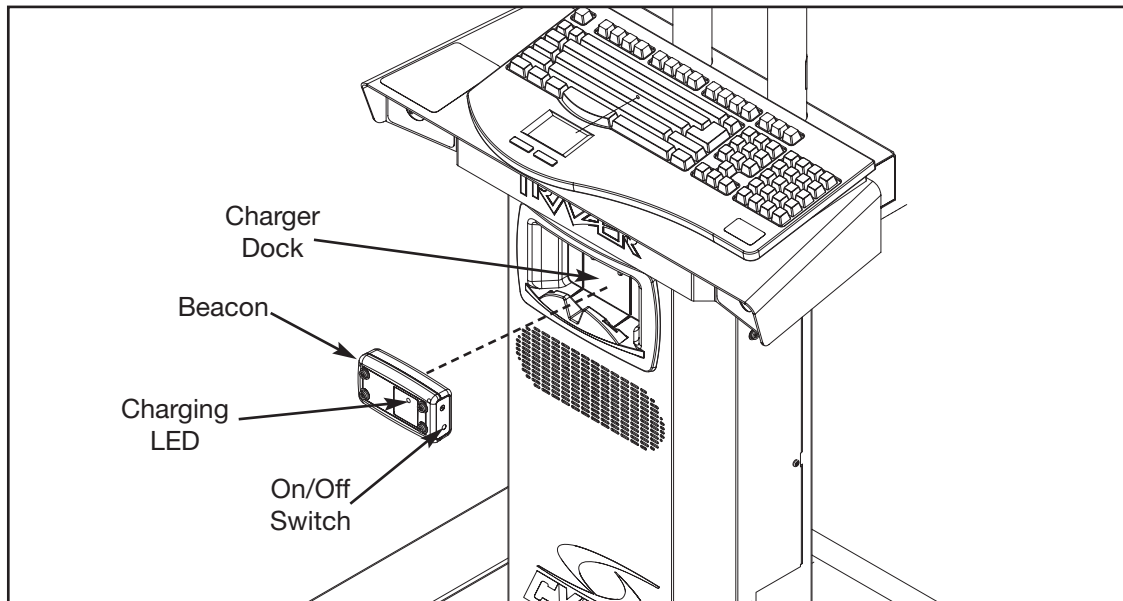

Figure 1
1. Remove beacon from charger dock. See Figure 1.
8. Place beacon in the charger dock with the On/Off switch on the right side. See Figure 1. **NOTE:** It is very important that the beacon be placed in the charger dock correctly. It takes about 12 hours to obtain a full charge. A fully charged beacon should provide about ten hours of use.
17. Remove beacon belt and return it to charging station. The charging station is located at the front of the cabinet. Place beacon with front side facing the cabinet. See Figure 1.